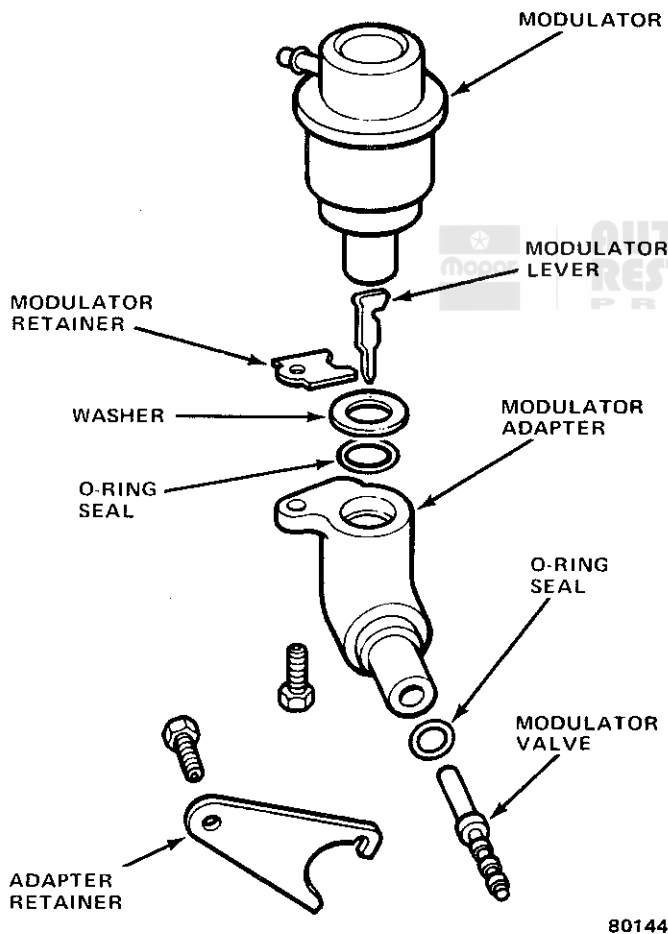

Fig. 2C-9 Modulator Assembly
- (1) Raise vehicle.
- (2) Disconnect vacuum hose from modulator.
- (3) Remove modulator adapter attaching screw and retainer (fig. 2C-9).